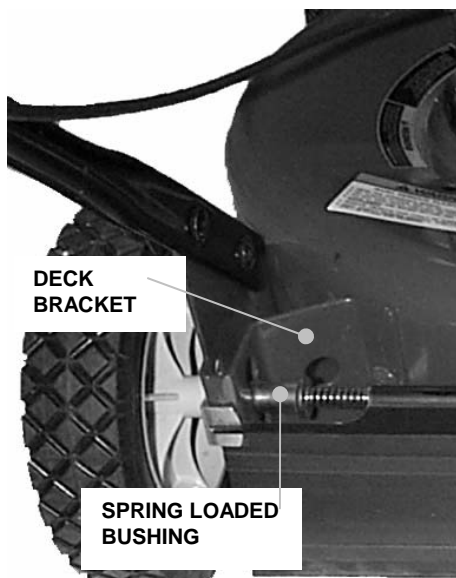

FIGURE 2.8
1. FRONT WHEELS: Reposition the front axle by raising the front wheels off the ground, then pull in the spring loaded bushings until they clear the brackets. Move bushings to the desired height of cut position and release the bushings. See Figure 2.8.
2. REAR WHEELS: Reposition the rear axle by raising the rear wheels off the ground, then pull in the spring loaded bushings until they clear the brackets. Move bushings to the desired height of cut position and release the bushings. Position the rear bushings in to the same notches corresponding with notches for the front wheels to maintain the level of the deck. See Figure 2.8.